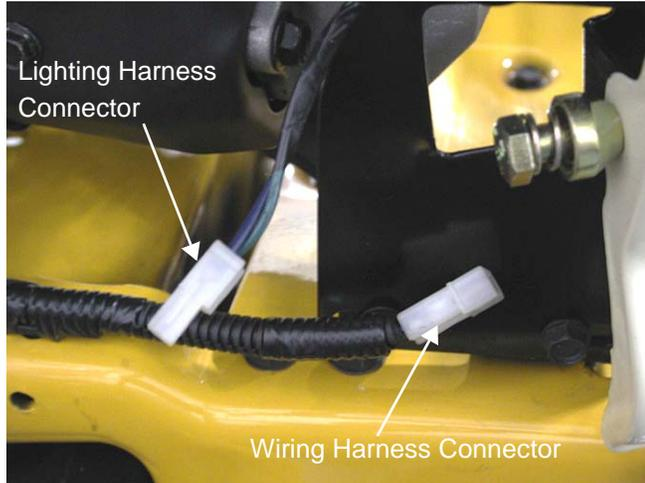

Figure 37.5
37.5. Disconnect the wiring harness connector from the lighting harness connector. See Figure 37.5.